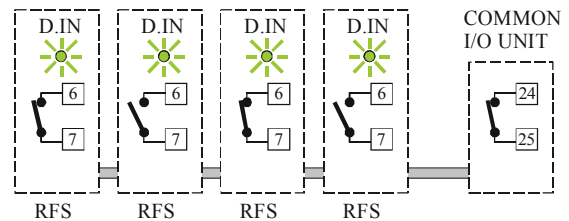

Fig. 18/B Common logic input CLOSE
**NOTE:** As shown in Fig 18, the logic input of a group of RFS can be driven singularly (using terminals 6 and 7 of the specific instrument) or collectively (using terminals 24 and 25 of the Common I/O unit).